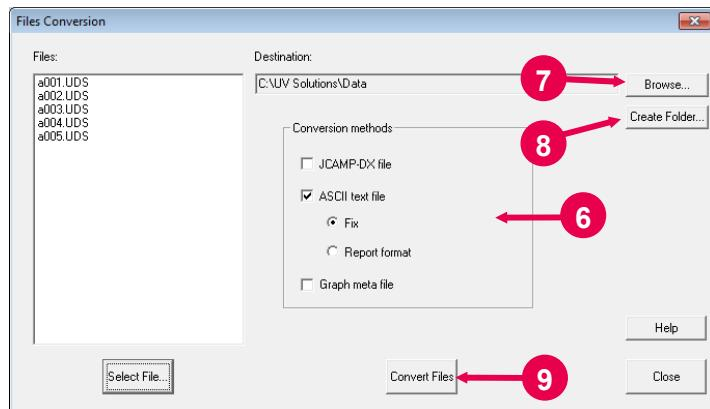

Fig. 6-29
- (5) After completion of file selection, click the **Open** button. The Files Conversion dialog box will appear, presenting a list of files to be converted as shown in Fig. 6-29.
- (9) Click the **Convert Files** button ((9) in Fig. 6-29) to carry out file conversion.